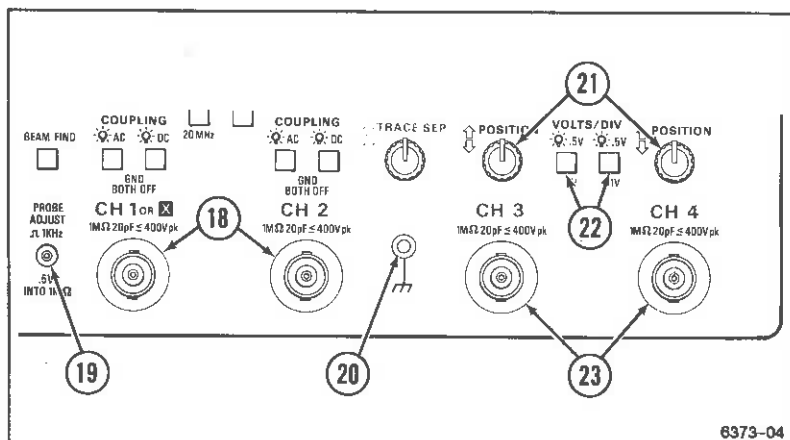

Figure 2-3. Vertical connectors and CH 3 and CH 4 controls.
Refer to Figure 2-3 for location of items 18 through 23